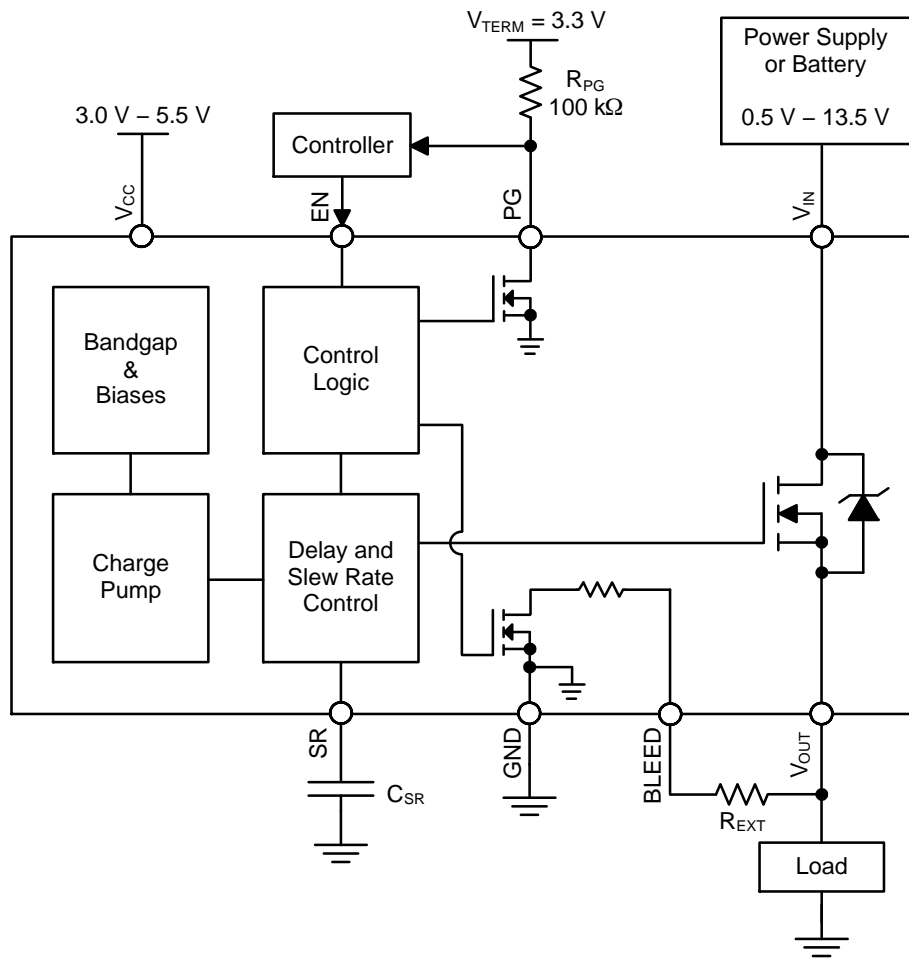
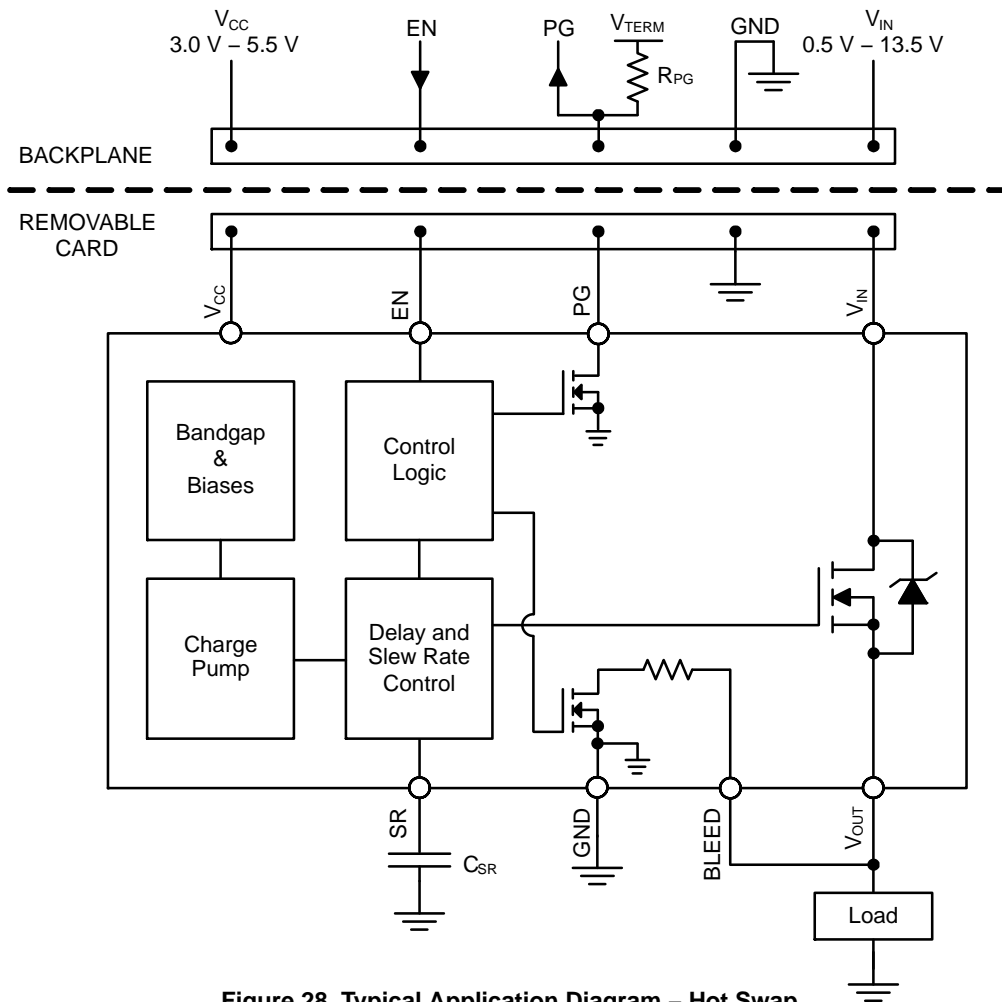

Figure 27. Typical Application Diagram – Load Switch
Figure 28. Typical Application Diagram – Hot Swap
It is required that the BLEED pin be connected to V_{OUT} either directly (as shown in Figure 28) or through an external resistor, R_{EXT} (as shown in Figure 27). R_{EXT} should not exceed $100\text{ M}\Omega$ and can be used to increase the total bleed resistance and decrease the load bleed rate.
The NCP45541 devices have a power good output (PG) that can be used to indicate when the gate of the MOSFET is fully charged. The PG pin is an active–high, open–drain output that requires an external pull up resistor, R_{PG} , greater than or equal to $1\text{ k}\Omega$ to an external voltage source, V_{TERM} , compatible with input levels of other devices connected to this pin (as shown in Figures 27 and 28).
The slew rate can be decreased with an external capacitor added between the SR pin and ground (as shown in Figures 27 and 28). With an external capacitor present, the slew rate can be determined by the following equation: